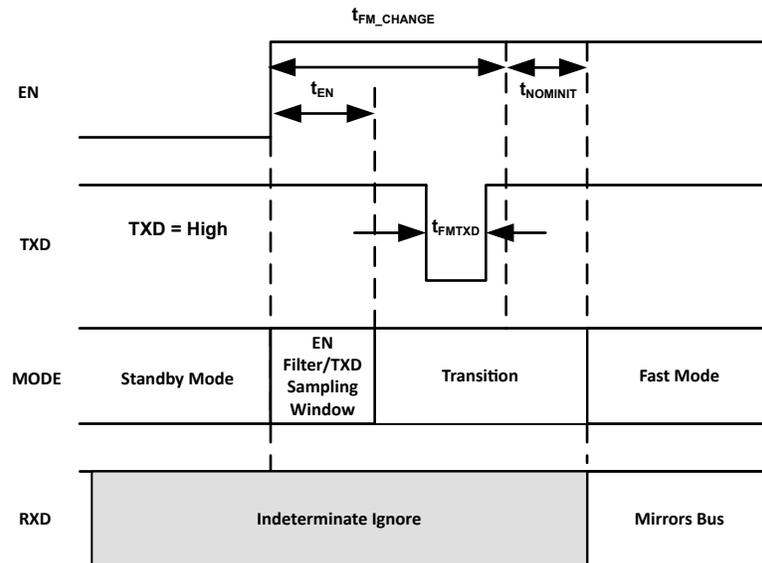

Figure 2-7. Fast Mode from Standby Mode Sequence Timing in Pin Control
Fast mode is a mode designed for end-of-line programming, allowing for data rates up to 200 kbps. To enter fast mode, the same power-up procedure applies as outlined for in Section 2.2 up until the transition out of standby mode. To transition to fast mode from standby mode, implement the same setting as above, but input a low pulse of width t_{FM_TXD} on the TXD pin as shown in Figure 2-7. Thus, implement this setting:
- TXD = low pulse for t_{FM_TXD} (see Figure 2-7)